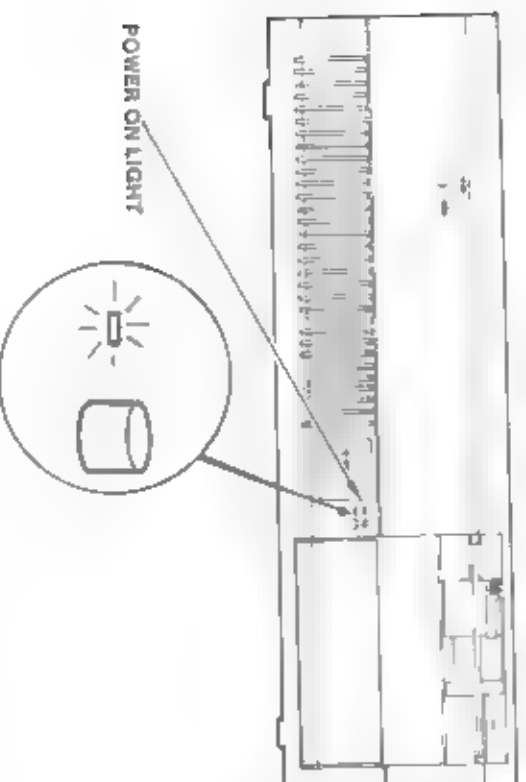

Figure 5-7 System Startup Test — Power On and Fixed-Disk Drive
- 1 The fan on the system unit rear panel starts, and the power on light on the front panel turns on (Figure 5-7).